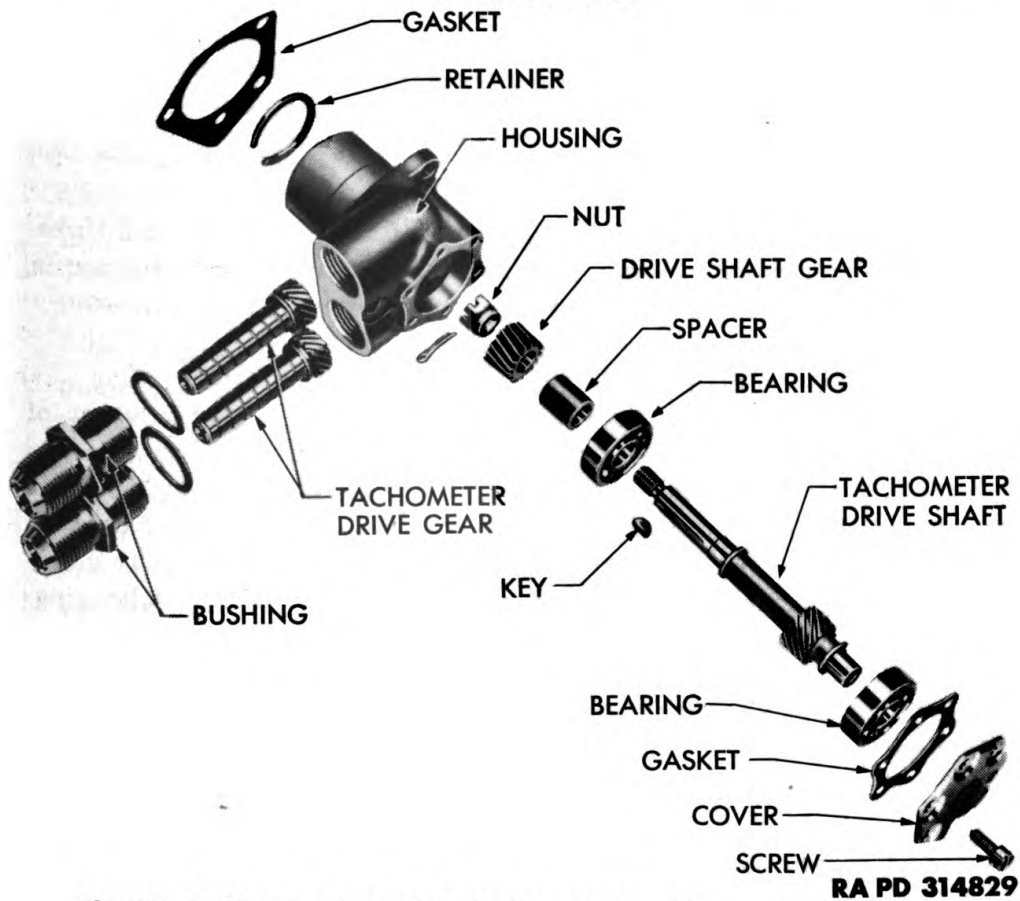

Figure 189 – Tachometer Drive Assembly – Disassembled
a. **Disassembly.** Remove protective caps from outer ends of bronze bushings. Remove lock wire, six cap screws, and washers which retain cover on tachometer housing (fig. 189). Remove cover and gasket. Unscrew both tachometer driven shaft bronze bushings from housing. Withdraw two sleeves and gaskets. Pry out tachometer drive shaft ball bearing retainer located at inner end of housing. Remove cotter pin and nut holding drive shaft gear and spacer in place. Remove gear, spacer, and gear key. Pull out tachometer drive shaft, drive shaft gear, and inner ball bearing, as a unit. Remove other ball bearing from housing.